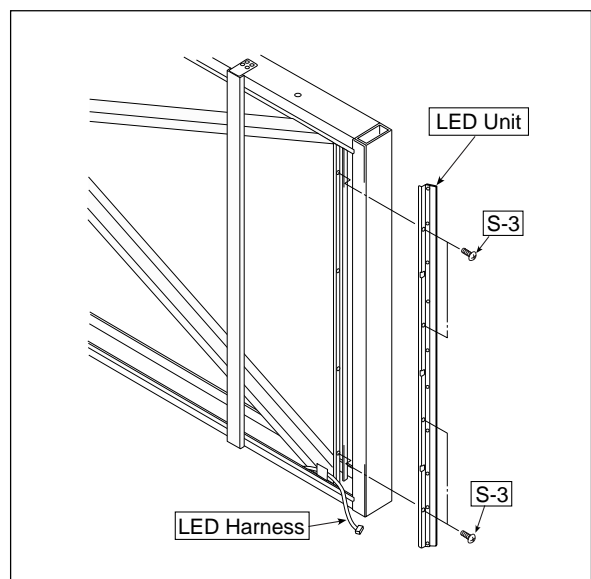

Fig. 16
11) Remove the LED Unit. (See Fig. 16.)
1. Remove the LED Harness as shown in Fig. 16.
2. Remove the "S-3" screws as shown in Fig. 16.
3. Remove the LED Unit as shown in Fig. 16.